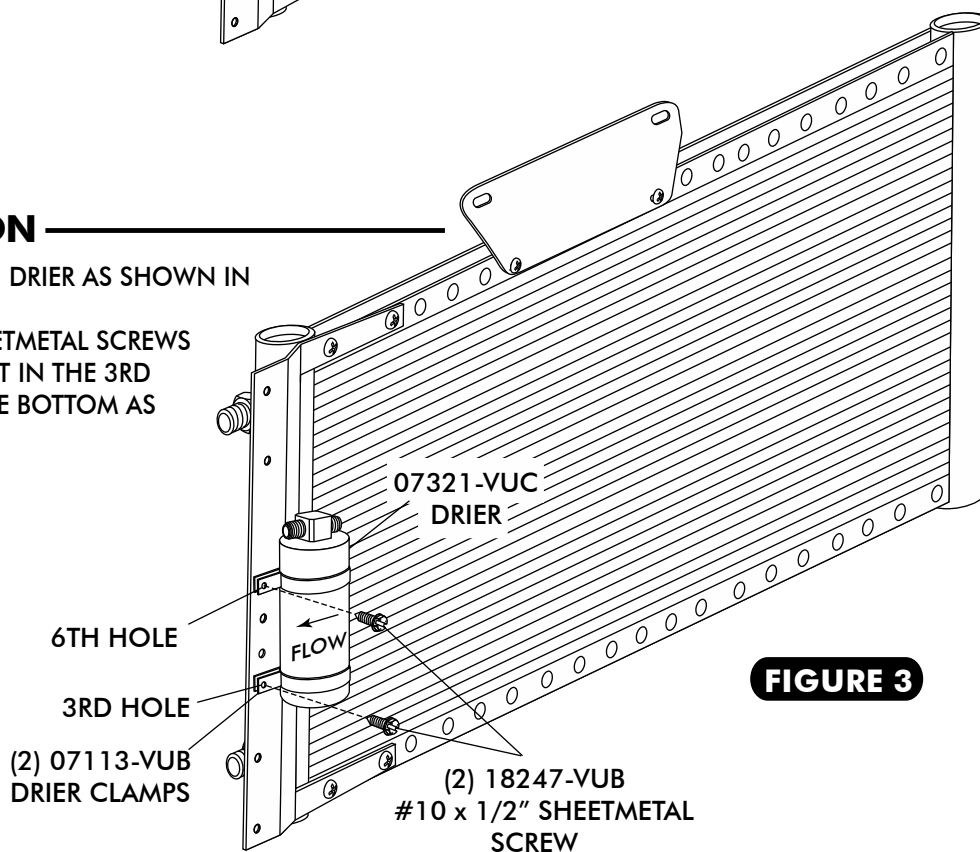

FIGURE 3
- INSTALL DRIER CLAMPS ON DRIER AS SHOWN IN FIGURE 3 BELOW.
- USING (2) #10 x 1/2" SHEETMETAL SCREWS INSTALL DRIER ON BRACKET IN THE 3RD AND 6TH HOLES FROM THE BOTTOM AS SHOWN IN FIGURE 3.